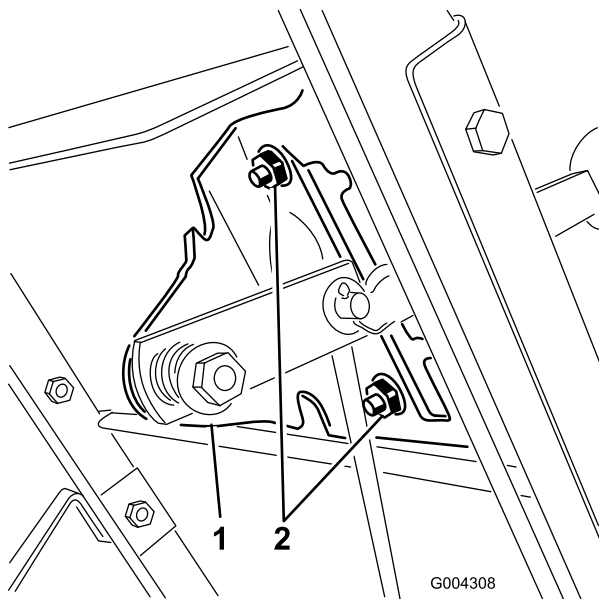
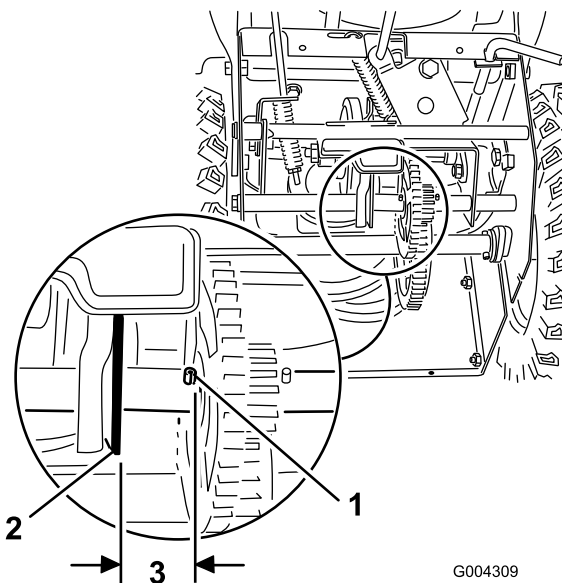

Figure 23
Figure 24
- Loosen the flange nuts that secure the selector plate to the control panel (Figure 23).
Note: The drive assembly should be 1/8 inch (3 mm) from the roll pin; if not, slide the selector plate (Figure 23) until the gap is 1/8 inch (3 mm); refer to Figure 24.